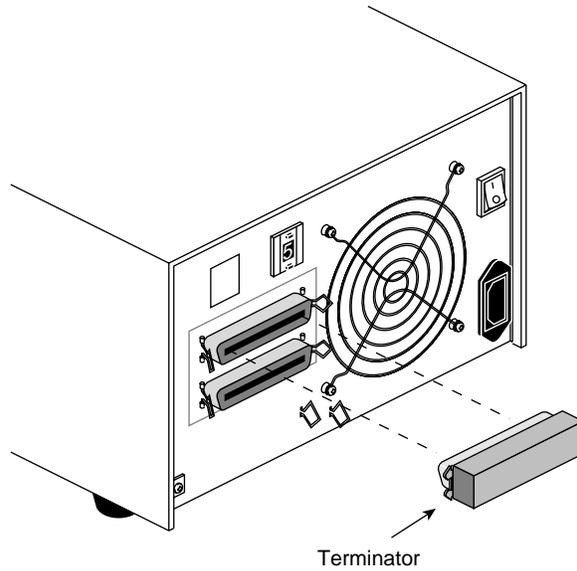

Figure 4-4 Terminating the DLT Desktop Tape Drive
3. Plug the other end of the SCSI cable into the lower SCSI connector on the back of the desktop DLT drive. Figure 4-4 shows an example.
4. Terminate the bus by installing the terminator included in the shipment to the top SCSI connector, as shown in Figure 4-4.
3. Plug the other end of the SCSI cable into the lower SCSI connector on the back of the desktop DLT drive. Figure 4-4 shows an example. Always use the upper SCSI connector for termination.